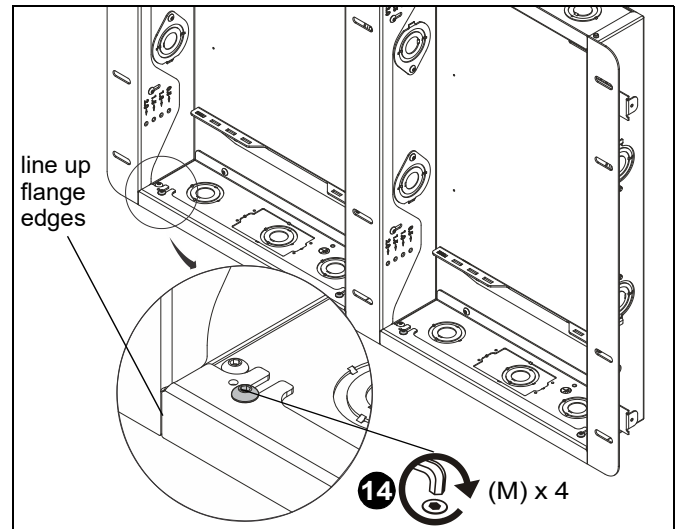

Figure 7
14. Tighten all screws (M) to secure top/bottom flanges (E), side flanges (C) and saddle flanges (D) making sure all flange edges are lined up. (See Figure 7)
2. Use a drywall cutting tool to cut hole for box based on dimensions shown below (See Figure 7) or using wall template included with FPIWMKIT1.